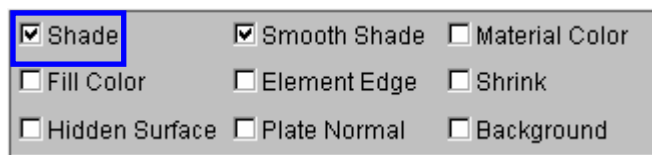

Figure 151: Display options
2. Toggle on the **Shade** checkbox in the display options illustrated in Figure 151. The **Smooth Shade** option is also toggled on by default to enable smooth and continuous model display.